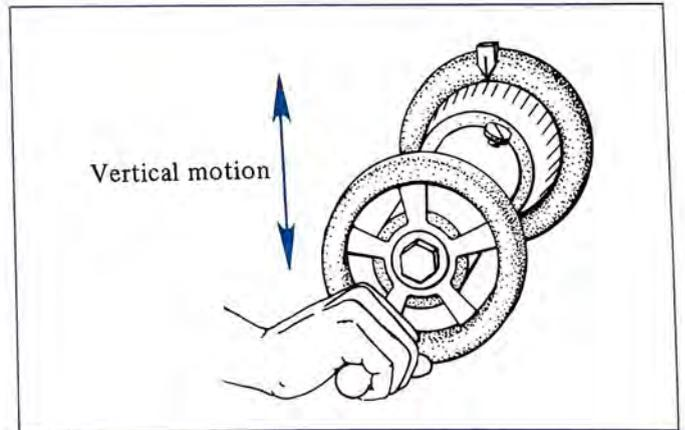

FIGURE 13-4 Changing Rotary to Linear Motion with a Screw Thread
- As mechanical devices to change a rotary motion to a straight-line motion (Figure 13-4 shows a feed screw being turned to raise or lower a machine table).